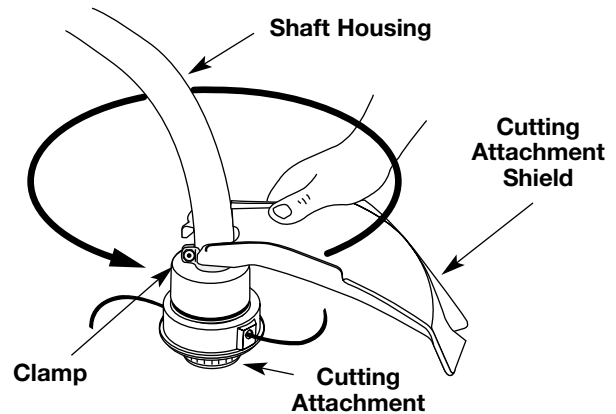

Figure 3
1. Place the cutting attachment shield onto the shaft housing above the clamp assembly, See Figure 3.
2. Push the cutting attachment shield down to the top of the cutting attachment assembly and then rotate the cutting attachment shield until the screw holes align and the guard fits into the recessed pocket. See Figure 3.